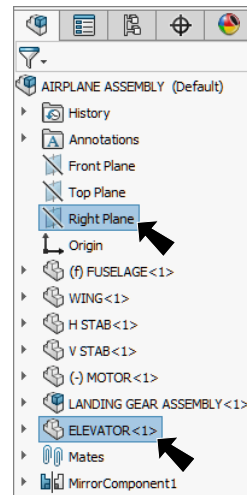

Fig. 13
Step 2. **Ctrl click** the **Right Plane**  and **ELEVATOR** in the Feature Manager to select both, **Fig. 13**.